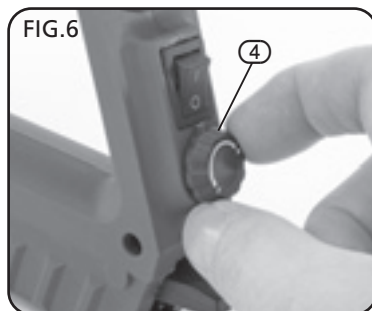

FIG.6
9.3 CHANGING THE POWER LEVEL - FIG. 6